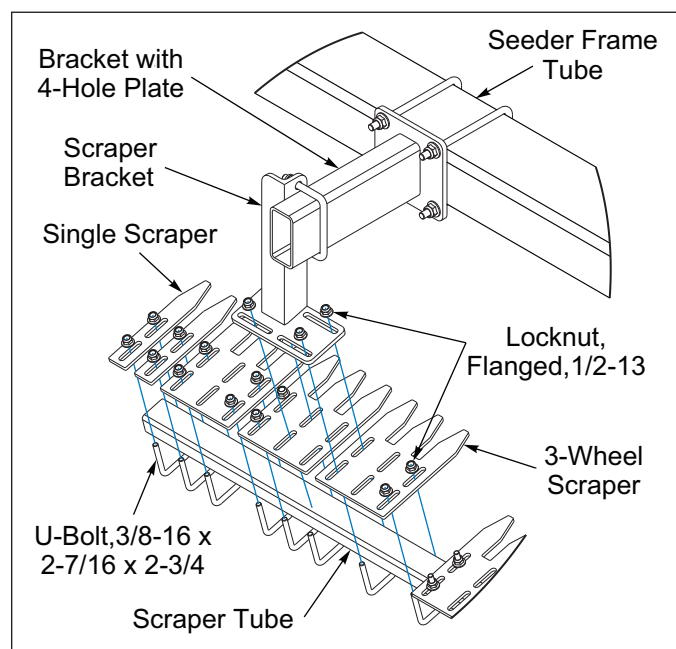
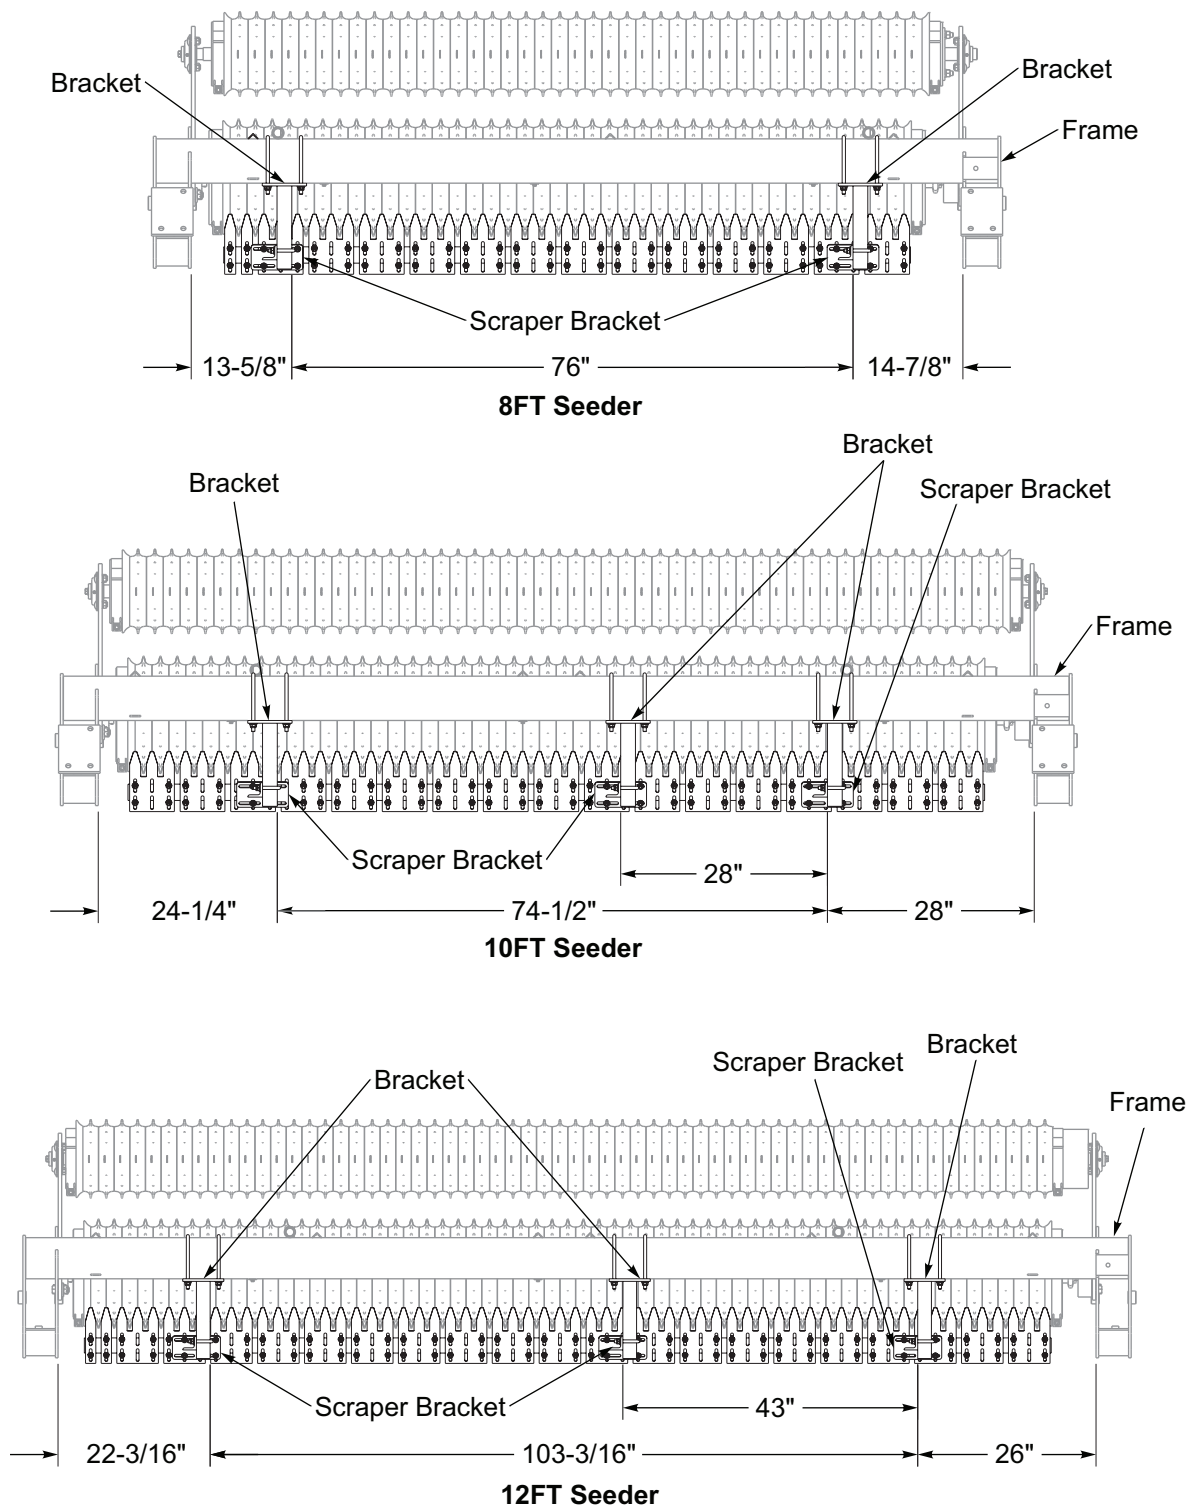

Figure 2-64: Scraper Assembly
Figure 2-65: Scraper Mounting Dimensions - Pull-Type
2. Position and assemble the Brackets with the 4-Hole Plate approximately as dimensioned on the front of the Seeder Frame Tube. See Figures 2-65 and 2-66. Secure with 1/2-13 x 4-1/2 x 7-1/2 U-Bolts and Flanged Locknuts.
Scraper Brackets should be positioned per application. Use Figures 2-65 and 2-66 only as a reference.
6. Align the Scraper Brackets Slotted Plate to the appropriate Scrapers and attach with the Scraper 3/8-16 Hardware. **See Figure 2-64.** It may be necessary to use the center pair and an outer pair of slots in the Scraper to attach the Scraper Bracket to the Scraper and Tube Assembly. **See Figures 2-65 and 2-66.**